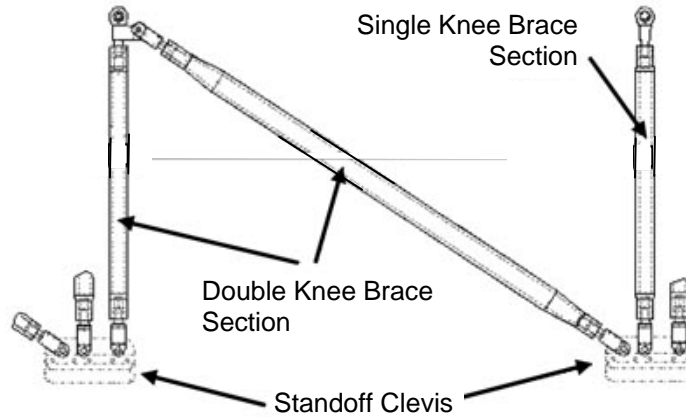

Figure 6.- Rack Knee Brace Assembly.
5.3 Remove Knee-Brace Assembly sections (P/N 683-50249-3) by pulling captive PIP Pins (three) from Standoff Clevis. Refer to Figure 6.